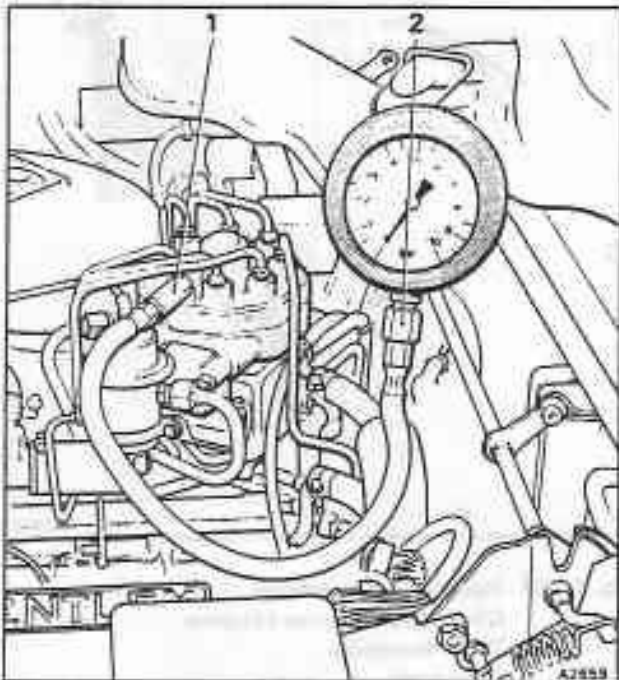

Fig. B4-46 Pressure tester equipment - testing for leaks or primary system pressure
To carry out this test, fit the pressure tester RH 9873 as shown in figure B4-46.
1. Fit the pressure tester RH 9873 as shown in figure B4-46.
The pressure tester equipment (see figs. B4-46 and B4-47) should be connected into the cold start injector feed line, on top of the fuel distributor or the lower differential pressure valve tapping point.
- Fuel system leakage either internal or external (see fig. B4-46).
- Primary system fuel pressure (see fig. B4-46).
- The pressure gauge may now be connected to the fuel distributor as shown in either figure B4-46 or B4-47. Ensure that all pipe nuts and unions are tight.